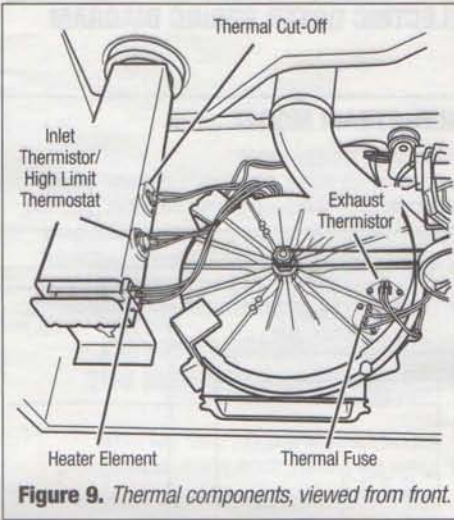

Figure 9. Thermal components, viewed from front.
Locate the components using figure 2, page 4; and figure 9, following.
- Check wire connections at the machine control electronics and thermistor. See Accessing & Removing the Electronic Assemblies, page 8; and for thermistor location, figure 9, page 5.
→ Check wire connections at the machine control electronics and inlet thermistor. See Accessing & Removing the Electronics Assemblies, page 8, and for inlet thermistor location see figure 9, page 5.
→ Check the resistance of the inlet thermistor. See figure 9, page 5 for location.
2. Access the thermal fuse by first removing the front panel. See Removing the Front Panel/Drum Assembly, page 8; and for thermal fuse location, see figure 9, page 5.
3. Using an ohmmeter, check the continuity across the thermal cut-off. See figure 9, page 5, for location.